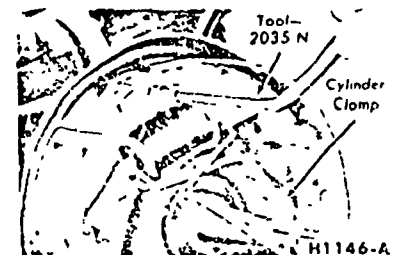

FIG. 6—Retracting Spring Removal
1. With the wheel and drum removed, install a clamp over the ends of the brake cylinder as shown in Fig. 6.
5. Remove the secondary shoe to anchor spring with the tool shown in Fig. 6. With the same tool, remove the primary shoe to anchor spring and unhook the cable anchor.
2. Place a clamp over the ends of the brake cylinder as shown in Fig 6.